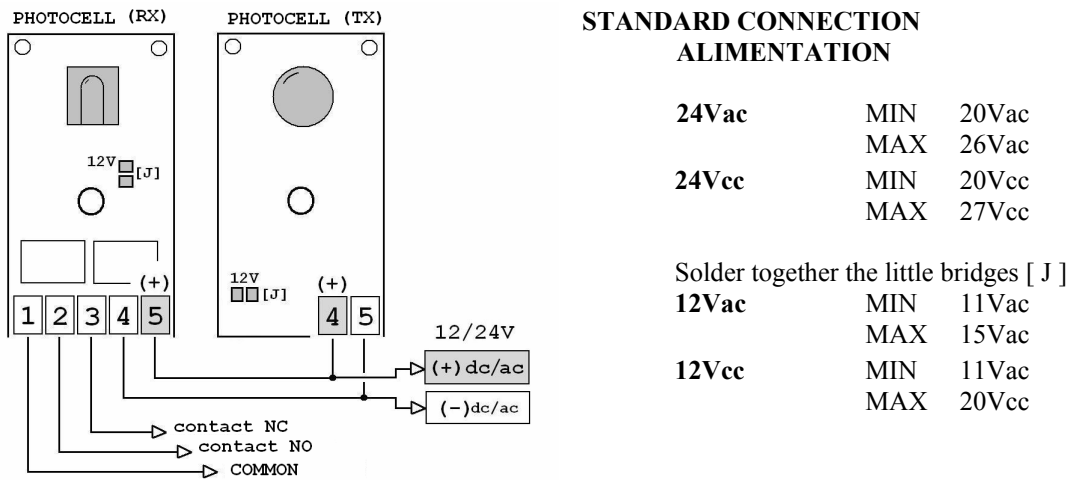

FIG. 6
- 3)** Put the electronic boards inside their boxes and connect (see fig. 6 = for one couple of photocells).
ATTENTION!! : If you use an ALIMENTATION of 12Vdc/Vac, you have to solder together the little bridges [J] of photocell (RX) and photocell (TX) (see fig.6)